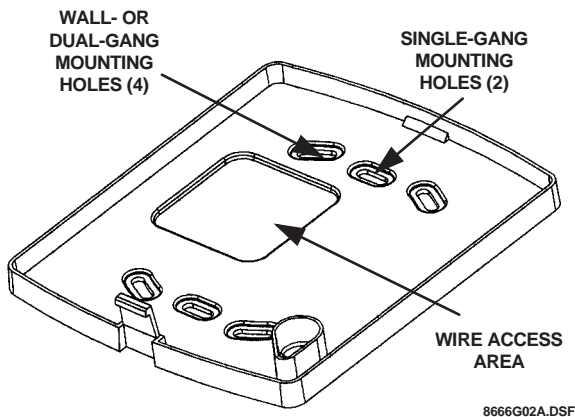

Figure 2. Marking the Mounting Holes
3. Place the mounting plate on the wall and mark the four mounting holes (see Figure 2).